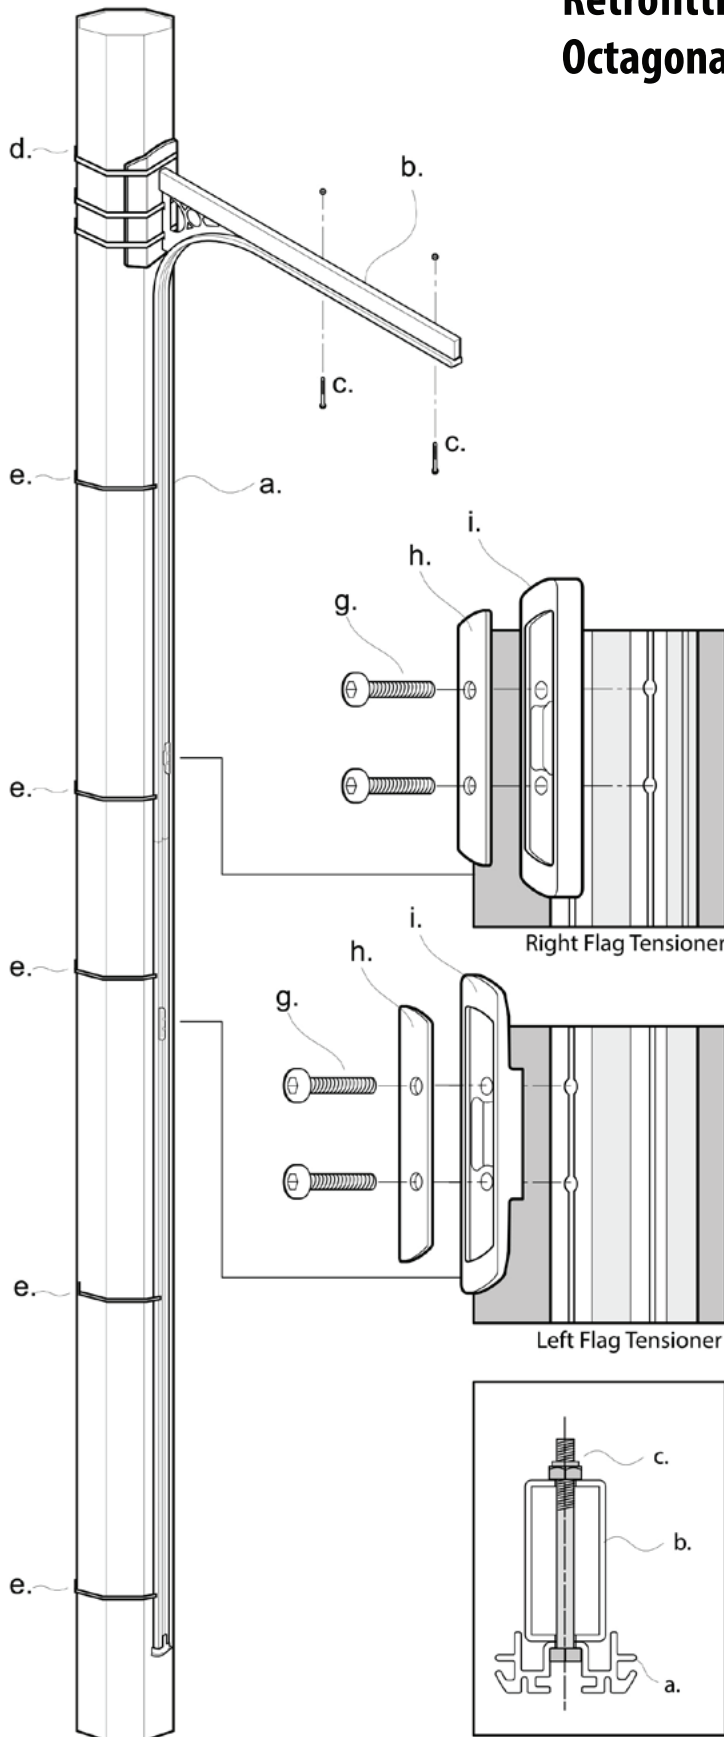

Fig 1.
6. Bolt the FlagTrax Track to the Support Arm Bracket with the x2 m6 x 65mm stainless steel bolts with locking nuts (c). The head of the bolts must be positioned into the aluminium extrusion with the bolt passing through the extrusion and bracket (Fig 1). i.e. The nuts must be above the support arm. Secure and tighten.